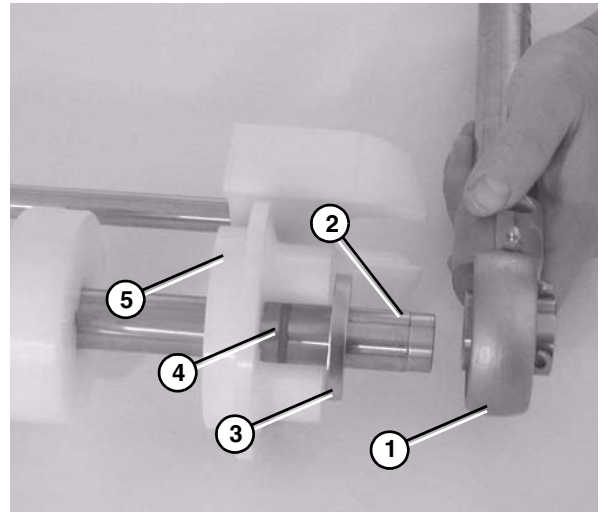

Figure 68
5. Slide off bearing shaft assembly (**Figure 68, item 1**), washer (**Figure 68, item 3**), O-ring (**Figure 68, item 4**), and flanged puck (**Figure 68, item 5**) off of the idler shaft (**Figure 68, item 2**).